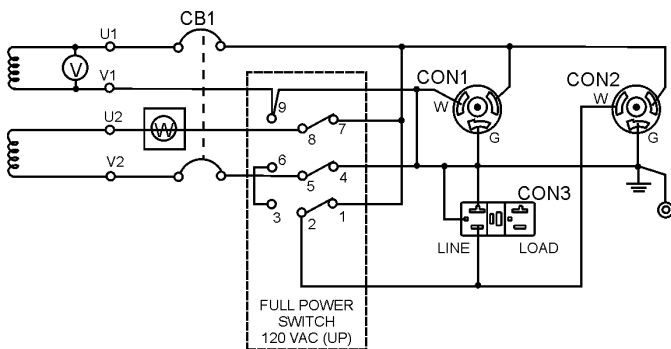

Figure 3C. 120V Full Power Switch Simplified Diagram (Up Position)
13. **Full Power Switch** – The generators are provided with a full power switch. Figures 3C and 3D show simplified wiring diagrams of the dual voltage system.